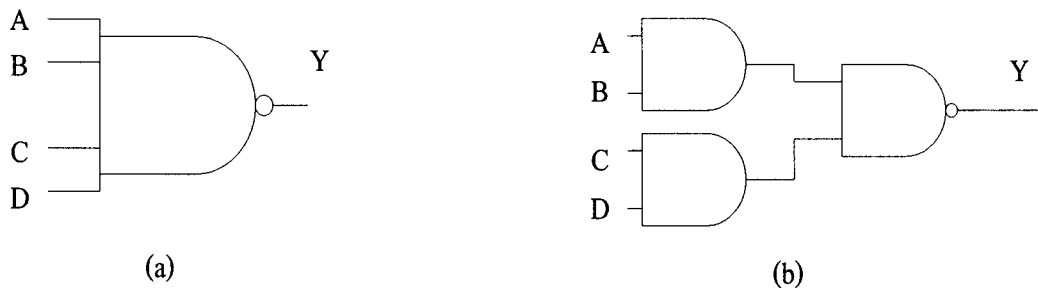

Fig. 1
1. 4-input NAND gates in Fig 1(a) and 1(b) have input capacitance of 10 units on each input. It must drive a load of 100 units. Logical effort of 4-input NAND is  $6/3$ , logical effort of 2-input NAND is  $4/3$ , and logical effort of inverter is 1.
- a. Estimate the delay of the NAND gates in Fig 1(a) and 1(b). (10 points)
- b. Estimate the area represented in the number of total transistor widths of the NAND gates in Fig 1(a) and 1(b). (10 points)